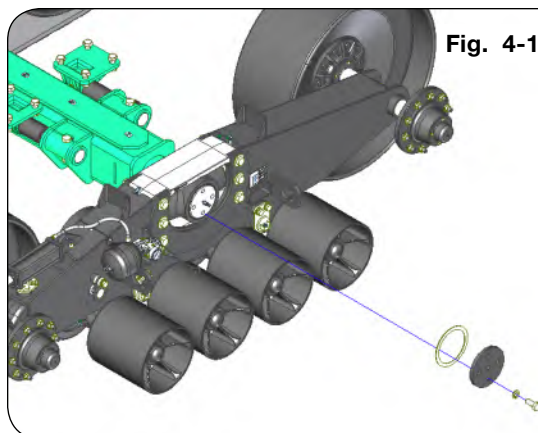

Fig. 4-11
10. Remove the pivot shaft plate cover and retaining hardware as shown in Fig. 4-11. Keep parts for reassembly.
11. Using a safe lifting device rated at 6,000 lbs., pull the track away from the cart. (Fig. 4-11)